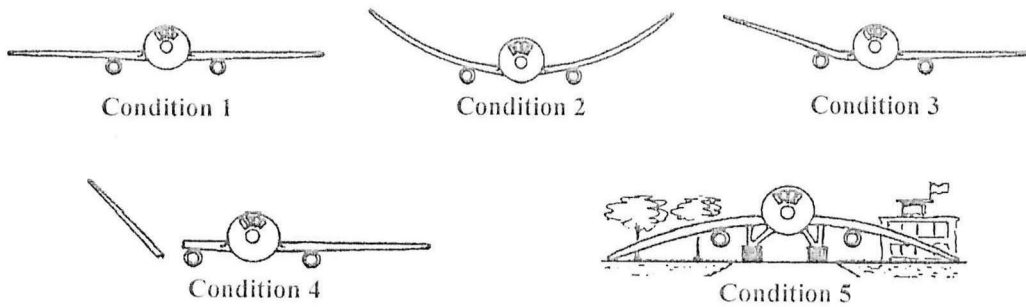

Figure Q3(d)
**PART B: ANSWER THREE (3) QUESTIONS ONLY**
- (d) Various conditions of an aircraft's wing-span are shown in **Figure Q3(d)**. Examine the mechanical properties issues and solutions in all given conditions. (10 marks)